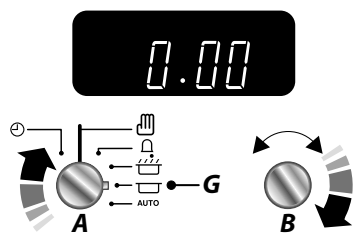

Fig. 2.34
3. Continue to turn the **Adjusting (B)** knob to the amount of time required e.g. 1 minute. The display will show the current time plus the required length of time you have set (**Fig. 2.34**).
4. Turn the **Timer (A)** knob to the **Auto (H)** setting (**Fig. 2.34**). The display will show the current time, the Cooking symbol and the word **'AUTO'**.